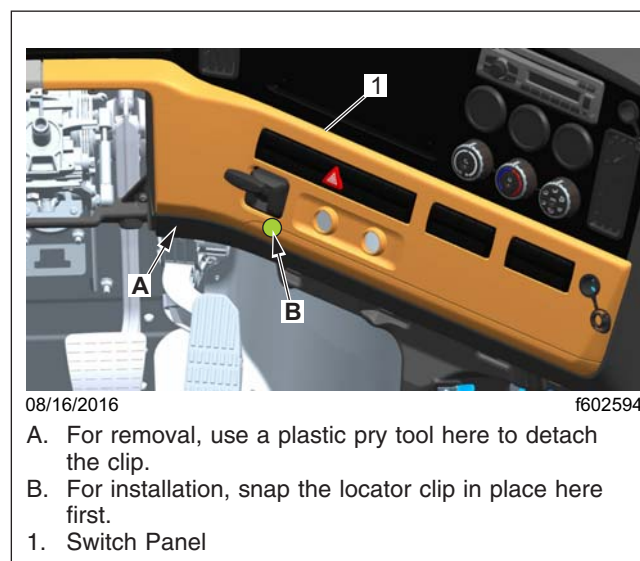

Fig. 1, Switch Panel Removal and Installation
1. Remove the switch panel (B-panel lower fascia). See Fig. 1.
6. Install the switch panel (B-panel lower fascia). See Fig. 1.